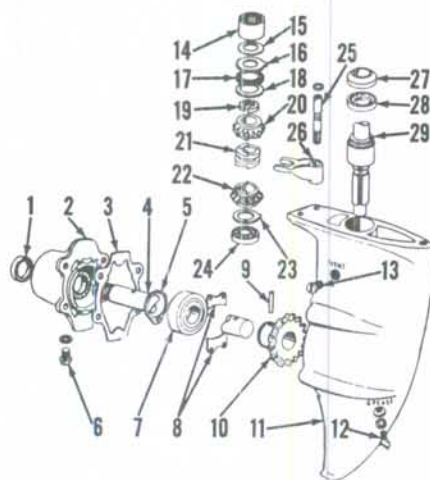
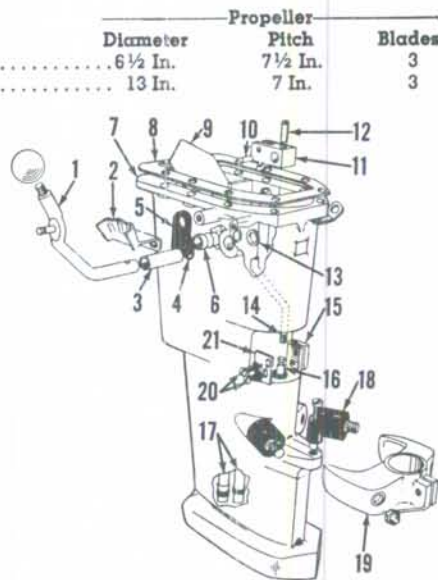

Fig. Mc5-17—Exploded view of gearcase housing and associated parts used on Fleet Scott and McCulloch 14.
Fig. Mc5-18—Exploded view of lower motor housing and associated parts used on Fleet Scott and McCulloch 14.
**Fleet Scott and McCulloch 14.** To renew or service the propeller shaft, gear or bearings, first drain the lubricant and remove the propeller, shear pin, and cushion hub. Remove the cap screws retaining the bearing housing (2—Fig. Mc5-17) and withdraw shaft, bearing, housing and gear as a unit. Remove the bearing retainers (8) then press the shaft bearing and gear assembly out of housing. Seal (1) can be renewed at this time. Gear (10) is retained to shaft by pin (9). Bearing (7) is positively located by the snap ring (5) and gear. Gasket (3) is available in thicknesses of 0.010 and 0.015 to provide the proper mesh for the drive gears. To adjust the backlash, shift the lever into neutral and install the propeller shaft assembly with one 0.010 shim. If the propeller shaft turns hard, increase the gasket thickness by 0.005 steps until propeller shaft turns freely with a minimum of backlash.
To remove the gearcase housing from the exhaust housing, first disconnect the shift rod coupling (15—Fig. Mc5-18) then remove the capscrews retaining the pump housing to the exhaust housing (7). Remove the pump housing and gearcase housing as a unit. Disassemble the cooling system and bailer pumps as outlined in WATER PUMP paragraph, then remove pump housing from gearcase housing (11—Fig. Mc5-17). Drain the gearcase housing and remove the propeller shaft assembly as previously outlined. Remove the split driveshaft retainers (19) then pull the driveshaft, seal and inner bearing races out of gearcase. Remove the other gearcase components. Forward gear (20) and upper side of clutch dog (21) are marked with the letter "T" as an aid to proper assembly. Reverse gear (22) and lower side of clutch dog (21) are marked with the letter "R". To adjust the backlash of the gears when assembling, measure the combined assembled thickness of thrust bearing upper race (16), bearing (17) and lower race (18), then add shims (15) to give a total thickness (bearing and shims) of 0.299-0.300. Shims are available in thicknesses of 0.002, 0.003, 0.005 and 0.010 and no more than two shims should be used in the pack. If more than two 0.010 thick shims are required, renew the bearing assembly. Shims are color coded in the following order from the thinnest shim to the thickest: Silver; Orange; Blue; and Yellow. Make final backlash adjustment by varying the thickness of gasket (3) as previously outlined.
**ADJUSTMENT.** To adjust the gear shift linkage on Fleet Scott and McCulloch 14, drain the gearcase housing and remove the propeller, shear pin and cushion hub, then remove the propeller shaft and housing assembly. Move the shift lever (1—Fig. Mc5-18) to the neutral detent position and check to make sure that clutch dog (21—Fig. Mc5-17) is midway between the gears (20 and 22). If it is not, loosen the coupling screws (20—Fig. Mc5-18) and thread the coupling (15) up or down on upper shift rod (14). Move the shift lever into "Reverse" and move the actuator (21) up or down until the reverse lock yoke is fully depressed, then tighten screws (20).